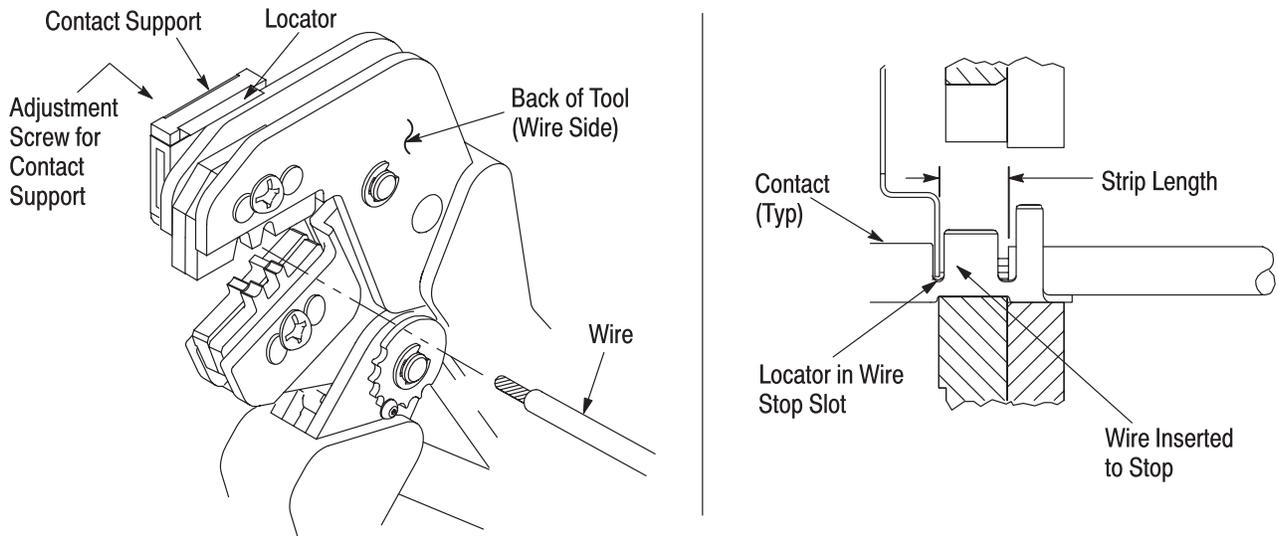

Figure 3
4. CONTACT SUPPORT ADJUSTMENT (Figure 3)
Refer to the table in Figure 1 and select wire of the specified size and insulation diameter. Strip the wire to the length indicated in Figure 1, taking care not to nick or cut wire strands. Select an applicable contact and identify the appropriate crimp section according to the wire size markings on the tool. Refer to Figure 3 and proceed as follows:
3. Position the contact so that the mating end of the contact is on the locator side of the tool, and so that the open “U” of the wire and insulation barrels face the top of the tool. Place the contact up into the nest so that the movable locator drops into the slot in the contact. Refer to Figure 3. Butt the front end of the wire barrel against the movable locator.
5. Insert stripped wire into contact insulation and wire barrels until it is butted against the wire stop, as shown in Figure 3.
NOTE *The crimped contact may stick in the crimping area, but the contact can be easily removed by pushing downward on the top of the locator (see Figure 3).*